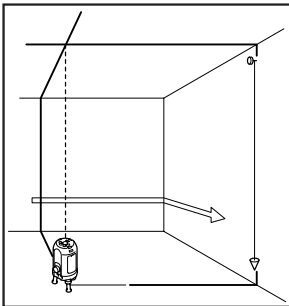

Fig. 8
- 1) Hang a plumb-bob (See the figure 8) from 3 m height of the wall (the height of ceiling is approx. 3 m). Place the unit on the floor at the point of 2 to 5 m away from the wall. Make sure that the air-bubble is centered in the round vial (4).